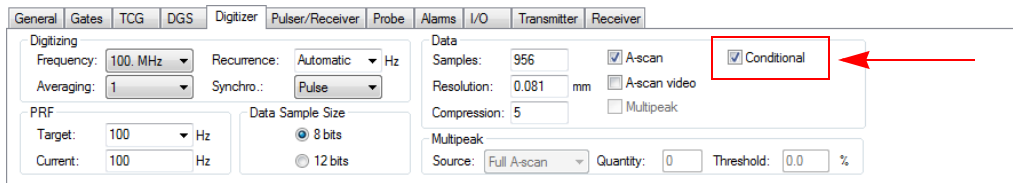

Figure 4-65 The Digitizer tab
1. Go to the **Digitizer** section of the **UT Settings** panel and check the **Conditional** checkbox. See Figure 4-65 on page 292.